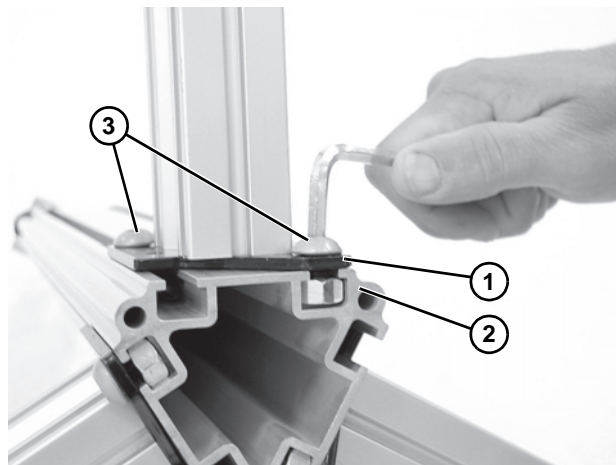

Figure 6
5. Align bottom edge of the end plate (**Figure 6, item 1**) with bottom edge of the trileg post (**Figure 6, item 2**).
Failure to secure screws (Figure 6, item 3) may cause conveyor sections to drop down, causing severe injury.
TIGHTEN ALL SCREWS (Figure 6, item 3) AFTER ADJUSTMENT.
6. Tighten button screws (**Figure 6, item 3**) to 100 in-lb (11 N-m).